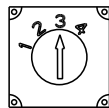

Figure 8: Regulator Voltage Selection Switch
1. Regulator has four selectable set points. Before installing regulator, verify appropriate switch setting (at bottom of regulator) for your application and change if necessary. See Figure 8 and Table 1 for fixed voltage set point options when used without battery sensor/harness. See Table 2 for battery chemistry-based charge profiles when used with compatible CEN battery sensor/harness. **Contact battery manufacturer or vehicle OEM for charging set point recommendations for your environment or application if necessary.**